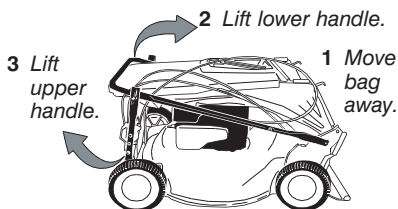
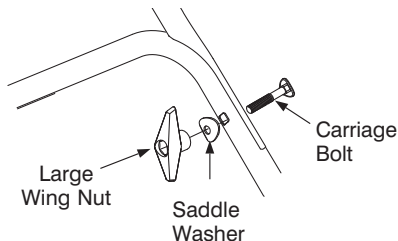

Figure 1
Figure 2
- Remove grass bag from the unit and set it out of the way. See Figure 1, step 1.
- Raise the lower handle in the direction shown in Figure 1, step 2 till it snaps into place.
- Raise the upper handle in the direction shown in Figure 1, step 3. Tighten the wing nuts which are already on the handle. See Figure 2.